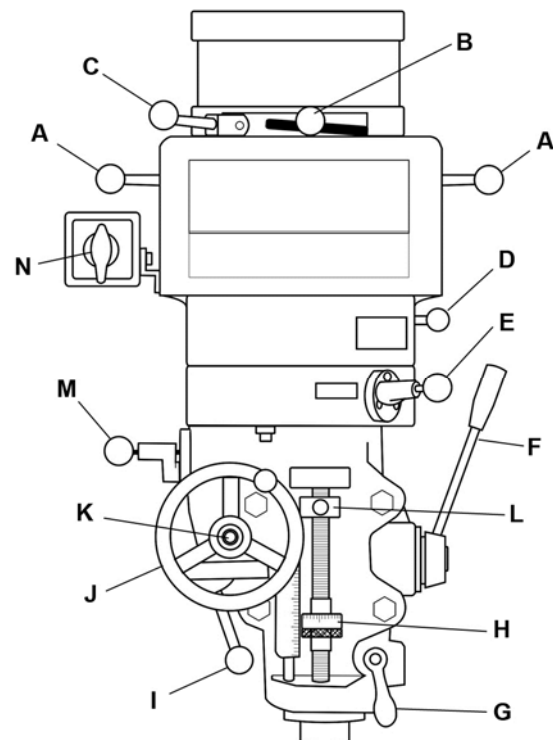

Figure 8
Refer to Figure 8:
- Ensure quill lock (G, Figure 8) is loosened by rotating counterclockwise.
- Set micrometer dial (H) to desired depth.
- Engage auto quill feed lever (D) by pulling out lock knob and moving lever to left hole.
- Select feed rate (M).
- Select feed direction (K).
- Engage feed trip lever (I) by pulling away from head assembly.
WARNING Verify that manual fine feed handwheel (J, Figure 8) has been removed for power feeding. Failure to comply may cause injury.
1. Lock spindle by turning spindle brake (C, Figure 8) left or right.